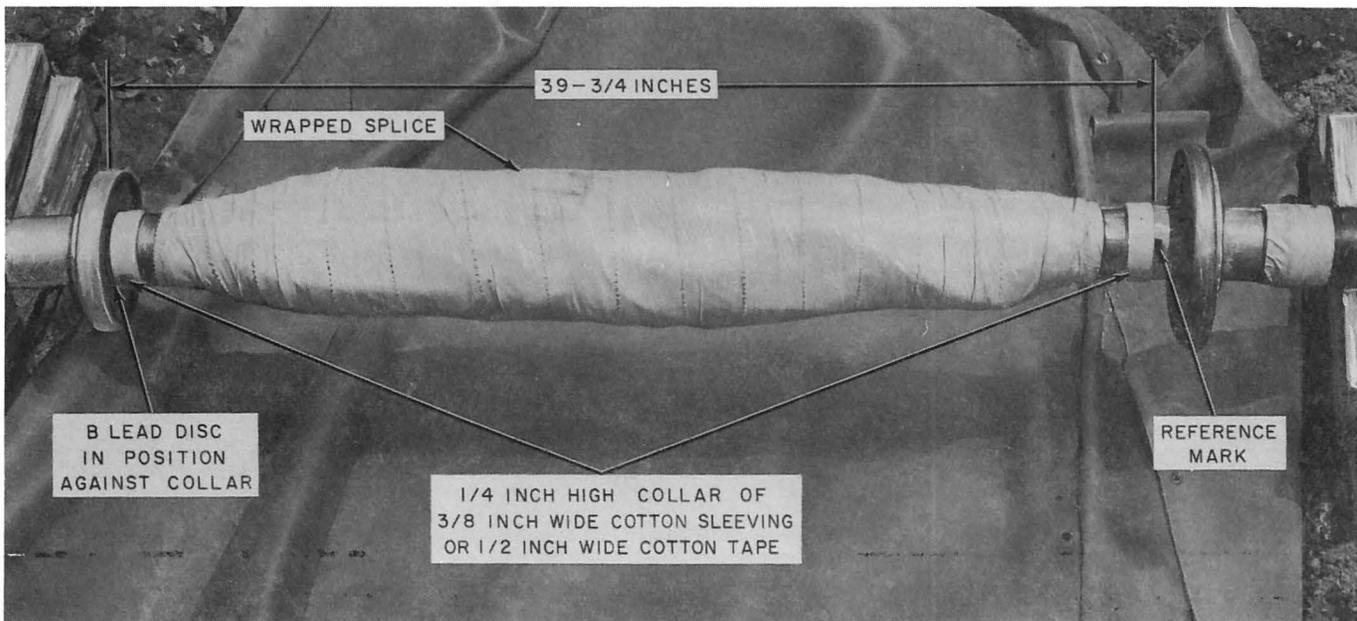

Fig. 7—Completed Splice
6.01 After the splicing operation is complete, as outlined in Section 632-425-205 build a collar approximately 1/4-inch high with five or six wraps of 3/8-inch wide plain cotton sleeving or 1/2-inch wide cotton tape on the splice side of the mark made in 5.02 (Fig. 7). The collar is used to position the lead disc and to prevent it from being pushed inside the lead ring during the wiping operation.
6.02 Slide the B Lead Disc into position on the cable already marked so that its concave face butts against the collar (Fig. 7).
6.03 From the top of the positioned lead disc, measure 39-3/4 inches across the splice and mark the lead sheath of the opposite cable (Fig. 7).